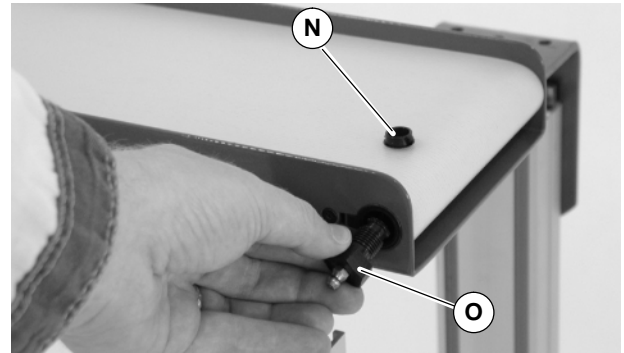

Figure 5
2. Install greasing adapter (45-12, part of tool kit 4500) (O of Figure 5). Make sure the adapter shoulder is seated against the conveyor frame.